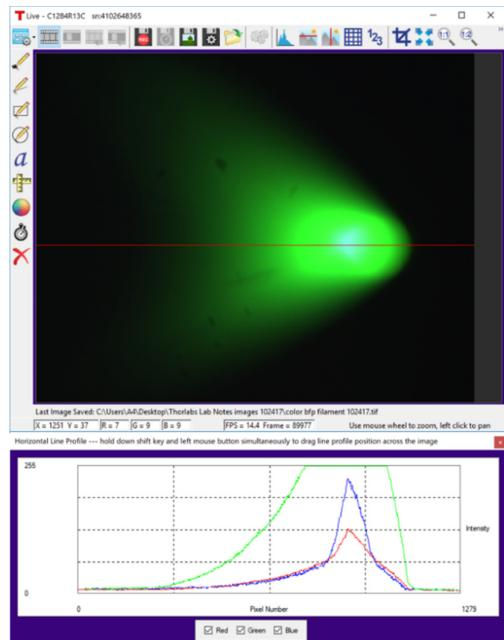

Figure 2: Example of undesirable flaring. The image is overexposed to make the flare more apparent.
- a. If this is not the case, open the BFP back up, adjust the beamsplitter, and close the BFP down again until you keep some light (e.g. a lighted spot of some sort; see Figs. 2 and 3 below) on the screen when it is closed down.
- iii. If the light is flaring away from the spot on the screen (see Figure 2), then twist the beamsplitter / adjust its angle to reduce the flaring / get the flare centered.